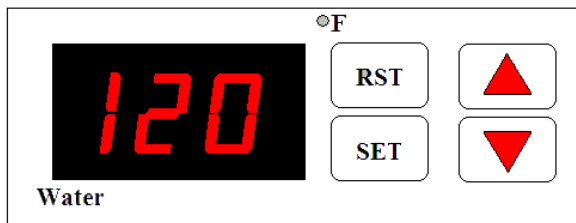

Figure 4A
- Using either the UP or DOWN keys, adjust the set point to the desired value. The controller will allow set points between 120°F and 160°F. See Figures 4A and 4B below.